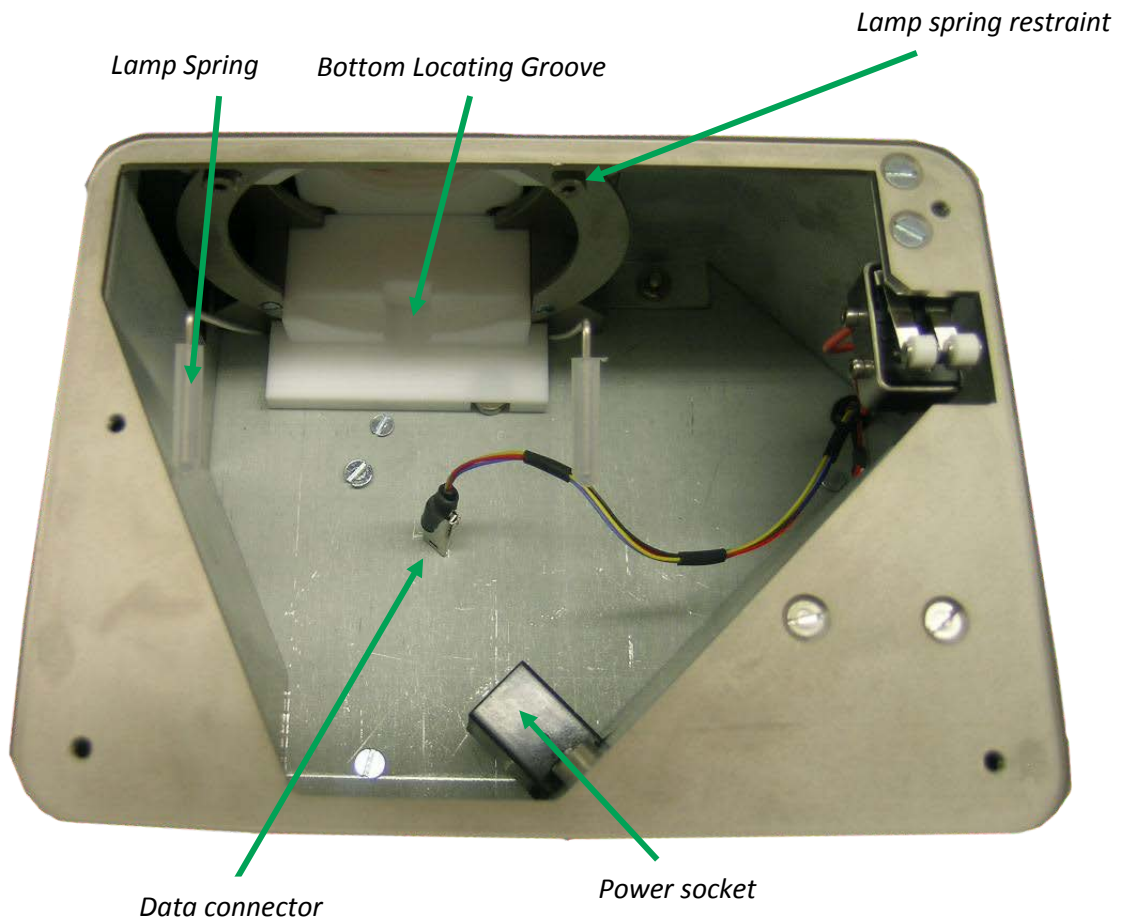

Figure 3
- 6) Locate the bottom of the bulb and ensure it is placed into the groove at the bottom of the lamp housing. See Figure 3 for an internal view of the bulb housing.